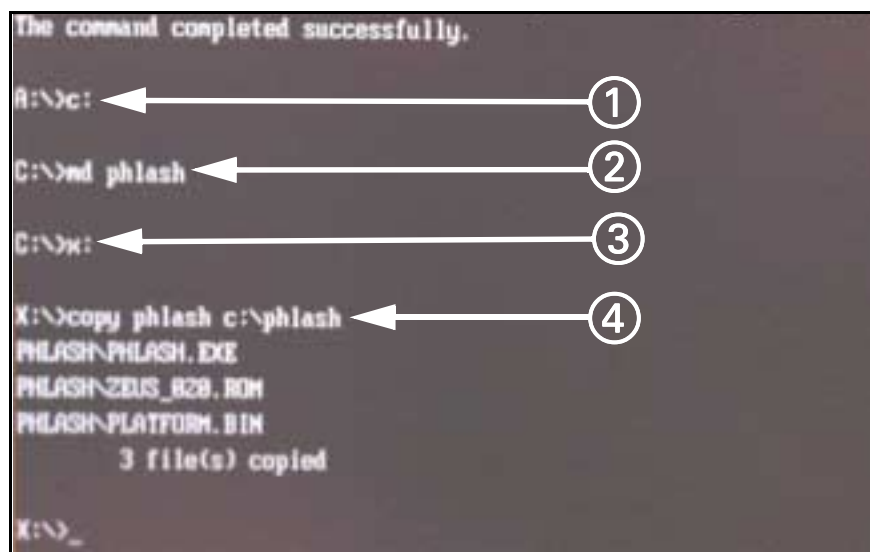

Figure 9-2 DOS Window
3) At DOS A:> Phlash prompt, type C: (① in Figure 9-2) and press <Enter>.
4) At DOS C:> prompt, type **md^plash** (② in Figure 9-2) and press <Enter>.
5) At DOS C:> prompt, type **x:** (③ in Figure 9-2) and press <Enter>.
6) At DOS X:> prompt, type **copy^plash^c:\plash** (④ in Figure 9-2) and press <Enter>.
- 3) At MDS DOS A:> Phlash prompt type **C**: (① in Figure 9-2) and press <Enter>.
- 4) At MDS DOS C:> prompt, type **md^plash** (② in Figure 9-2) and press <Enter>.
- 5) At MDS DOS C:> prompt, type **x**: (③ in Figure 9-2) and press <Enter>.
- 6) At MDS DOS X:> prompt, type **copy^plash^c:\plash** (④ in Figure 9-2) and press <Enter>.